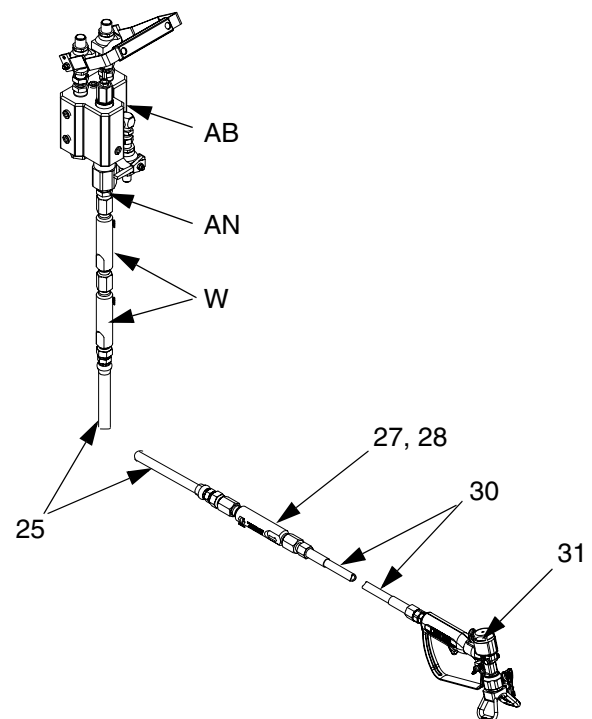

FIG. 7
1. Connect the outlet of the two primary static mixer tubes, with mixer elements (W), to the fluid mix hose (25), cleanup mixer (27, 28), whip hose (30), and spray gun (31). See FIG. 7.
2. Add mixed material hose as necessary between the mix hose (25) and cleanup mixer (27,28).